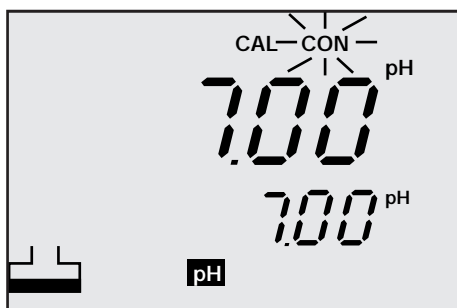

Figure 5
7. When the READY indicator displays in the left hand corner, press the CON button. See figure 5. The calibration point is stored in the meter.